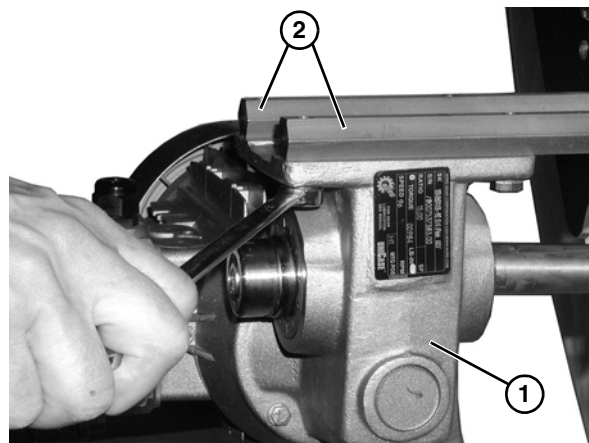

Figure 67
2. Remove the gearmotor assembly (Figure 67, item 1) from the gearhead mounting posts (Figure 67, item 2).